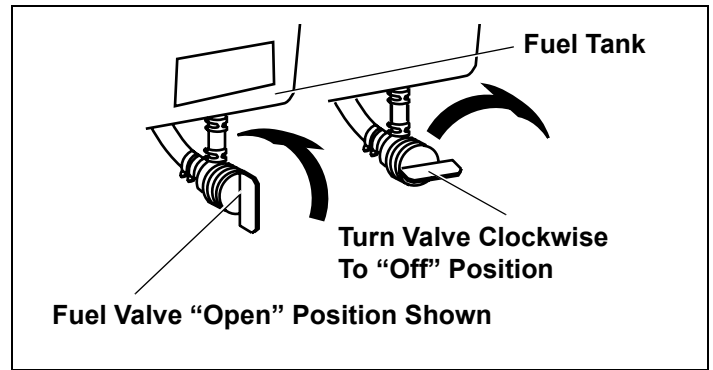

Figure 23. Optional Fuel Valve Positions
2. Be sure fuel valve (optional) is open and all switches are on. See Figure 23.